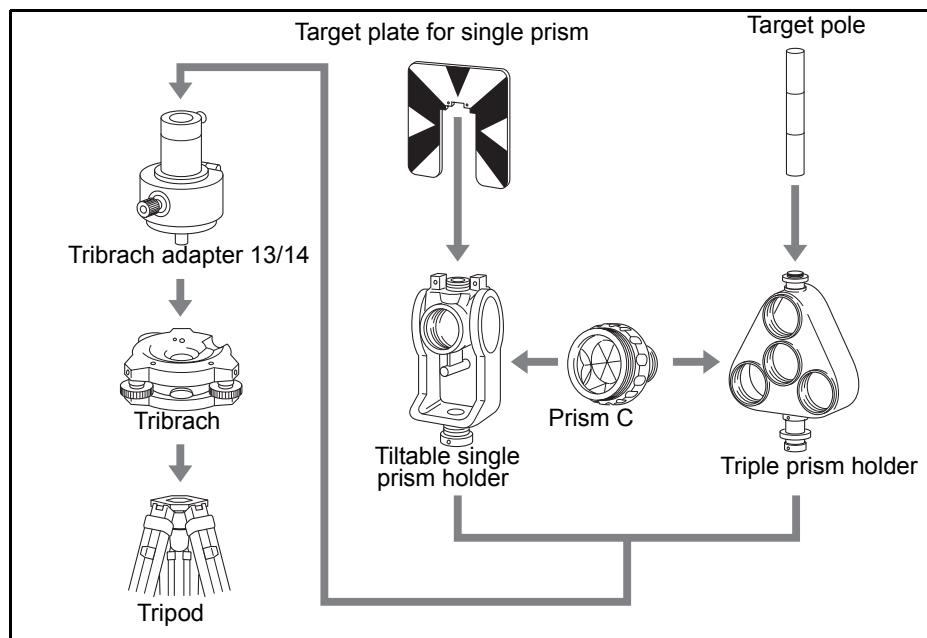

Figure 2.2 Assembling the prism reflector
- Assemble the prism reflector as shown in Figure 2.2.